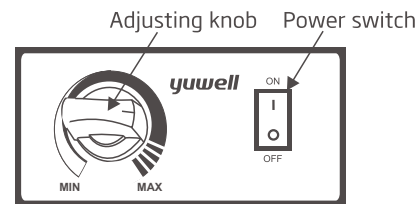

Figure 2
▶ Instruction of the operation panel of the air pump( Figure 2):